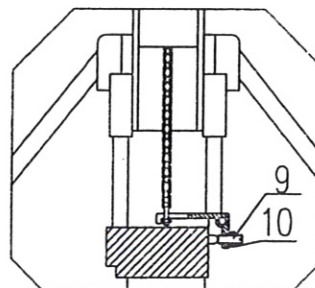

Fig.5
- 3.8 Screw (9) in Fig. 5 is used for the modification of the truck. In the event that the truck body lowers shortly after rising, turn Screw (9) a little in counterclockwise before trying the truck again. In the event that the truck body is unable to lower, turn Screw (9) a little in clockwise and then try the truck again until it restores normal lowering. Hexnut (10) at Screw (9) functions as a lock, so it shall be fastened before modification and locked after modification.